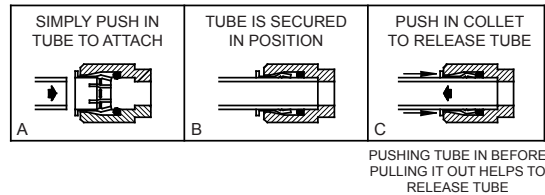

Figure 13 – Filter Quick Connect Fittings
**Actuation of Quick Connect Water Fittings:** Cooler is provided with lead-free connectors which utilize an o-ring water seal. To remove tubing from the fitting, relieve water pressure, push in on the gray collar while pulling on the tubing. (See Figure 13) To insert tubing, push tube straight into fitting until it reaches a positive stop (approximately 3/4").